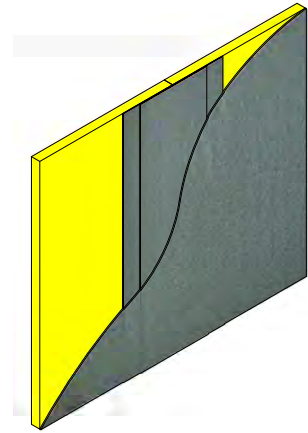

Figure 4
4. Mix and apply ACROSTOP-R per the product bulletin instructions over substrate. (See Figure 4)